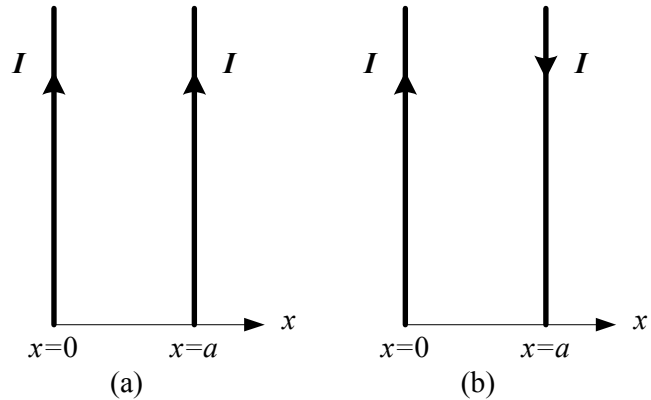

Figure 2: Two parallel straight conductors with
where  $a$  is the distance between the conductors. Equation (2) applies to the case when the currents flow in the same direction and equation (3) applies when the currents flow in the opposite directions as shown in figures 2 (a) and (b) respectively.